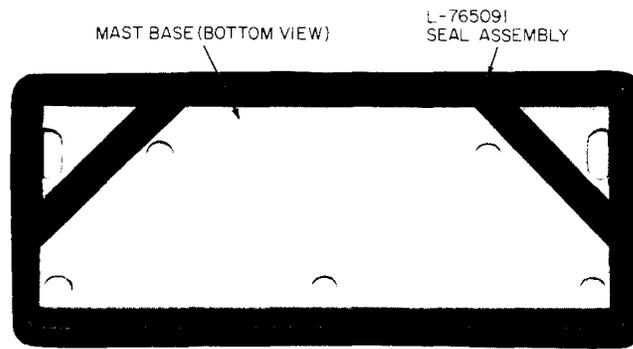

Fig. 18—Bottom View of Mast Assembly Showing Correct Position of Seal
- (1) Remove five hex head screws and flat washers, the L-765005 post cap, and the L-765044 seal assembly from top of post.
- (2) Remove the paper backing from the L-765091 seal assembly (furnished with mast assembly) and secure the seal to bottom of mast assembly (Fig. 18).
- (3) If overhead power and telephone wires are to be brought in (List 70 mast assembly only), remove the threaded hole plugs from top of post.
- (4) Install mast assembly on post and secure it with the five 3/8-16 by 1-1/2 hex head screws